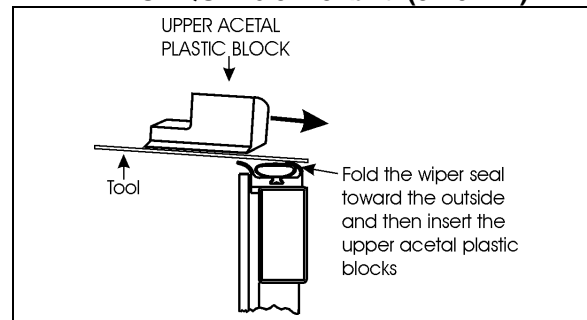

FIGURE 31: LOWER ACETAL PLASTIC BLOCK INSERTION
5. Reinstalling the upper acetal plastic blocks. Fold the wiper seal toward the outside with a flat tool to ease installation (Figure 31) and tighten the mounting screws. Leave no gap between the blocks and the rail.